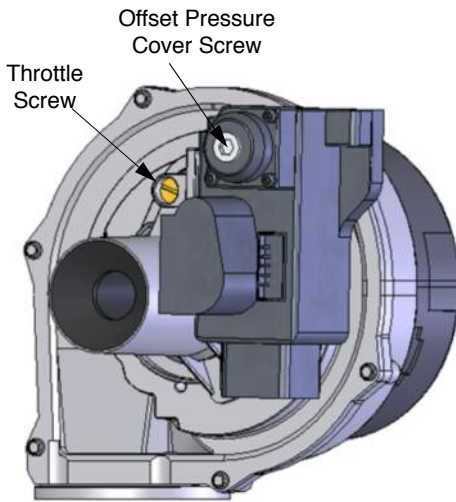

Fig. 3: Combustion Adjustment - Prestige Burner
2. If the combustion levels during high fire is outside the recommended combustion settings adjust the THROTTLE SCREW (see Fig. 3) using a flat-blade screwdriver as follows:
4. If the combustion levels (O2 or CO2) during low fire is not within +/- 0.2 of the combustion level measured at high fire, remove the offset cover screw and adjust the plastic OFFSET SCREW (see Fig 3) using a T-40 Torx wrench as follows:
6. If the combustion levels during high fire are outside the recommended combustion settings adjust the THROTTLE SCREW (see Fig. 3) using a flat-blade screwdriver as follows:
8. If the combustion level (O2 or CO2) during low fire is not within +/-0.2 of the combustion level measured at high fire. The offset cover screw and adjust the plastic OFFSET SCREW (see Fig. 3) using a T-40 Torx wrench as follows: